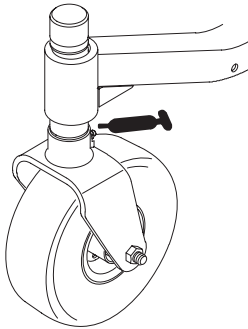
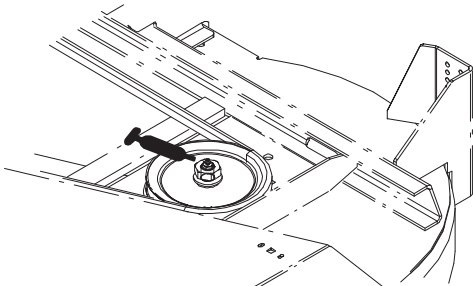
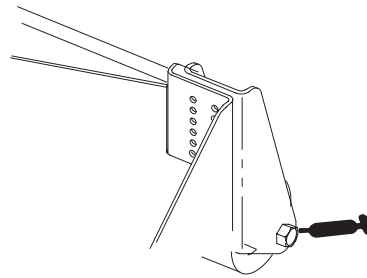
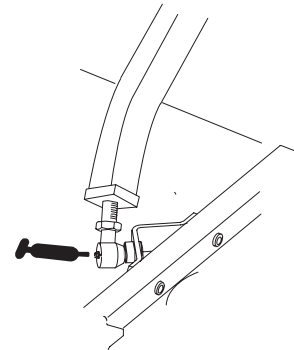

Figure 17
Figure 18
Figure 19
Figure 20
1. The cutting unit has bearings and bushings that must be lubricated, and these lubrication points are: front castor shaft bushings (2) (Fig. 17), blade spindle bearings (3) (Fig. 18), gage wheel (Fig. 19), right and left push arm ball joints (Fig. 20).